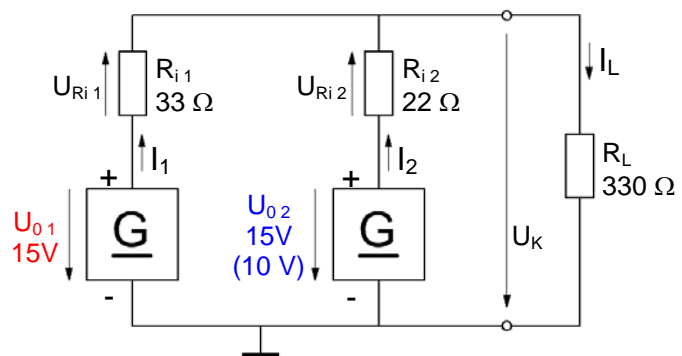

Fig. 6.3.2.1: Parallel circuit of voltage sources
Two voltage sources on the Board are connected in parallel for examining their properties by measurement. Their internal resistance will be simulated by connecting an 'external  $R_i$ ' (Fig. 6.3.2.1).
- Assemble the circuit in Fig. 6.3.2.1 on the Board. Use the Fixed DC Voltage as source voltage  $U_{01} = 15\text{ V}$  and the Variable DC Voltage as  $U_{02} = 15\text{ V}$ .
- Connect the two (different) voltage sources ( $U_{01} \neq U_{02}$ ) in parallel as in Fig. 6.3.2.1 and measure the values to complete table 6.3.2.3.